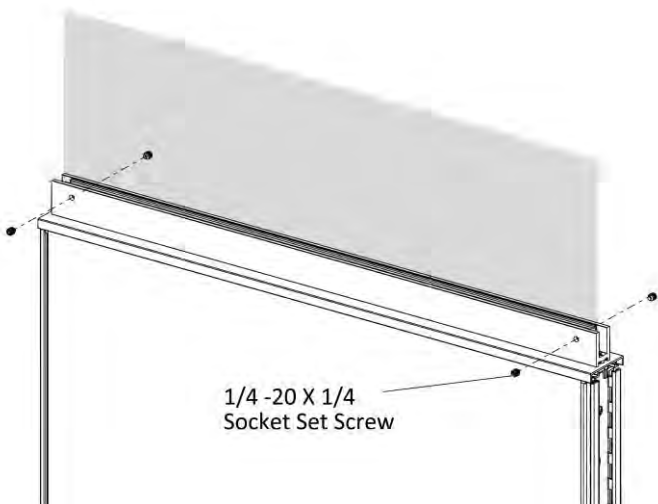

Figure 4
- Align and secure the glass/acrylic by inserting a 1/4-20 X 1/4" Socket Set Screw through each of the holes on the side of the base extrusion using an Allen Key driver, (Figure 4).